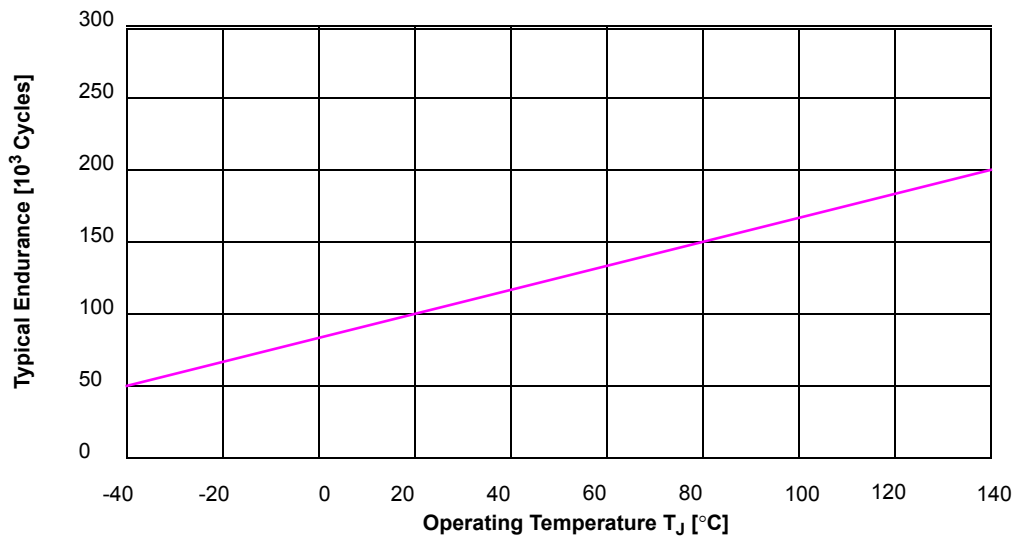

Figure 10. Typical Flash Cycling Endurance vs. Temperature
- 44. Spec table quotes typical endurance evaluated at 25 °C for this product family, typical endurance at various temperature can be estimated using the graph in Figure 10. For additional information on how Freescale defines Typical Endurance, refer to Engineering Bulletin EB619.